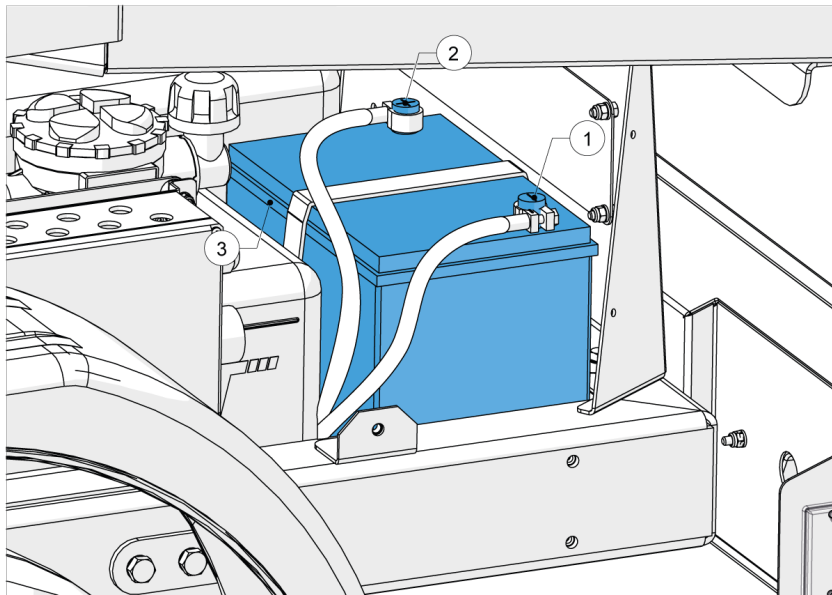

Figure 75 - Battery terminals
5. Remove the negative lead at the battery (1, Figure 75), then the positive lead (2, Figure 75).
11. Connect the positive lead to the battery (2, Figure 75), then the negative lead (1, Figure 75).